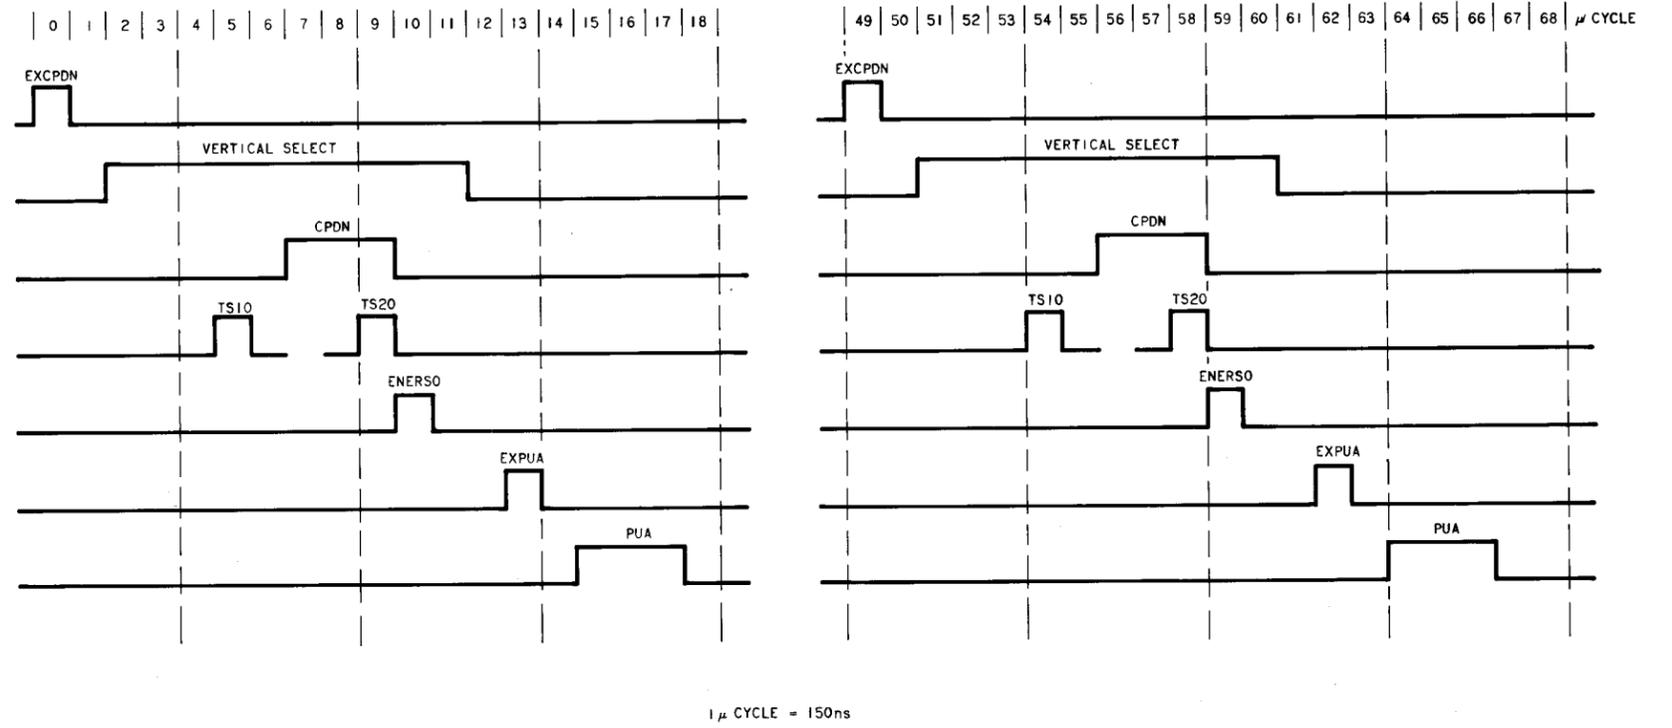

Fig. 12—Timing Pulses
**3.36 Output Timing Pulses**—The pulse shift register (PSR) receives clock pulses from the 3A CC and converts these clock pulses into timing pulses (Fig. 12) for the I/O control circuits. The loading of the PSR is described in 3.20. The timing pulses generated by the timing circuit are as follows:
**3.38** The EXCPDN pulse sets bit 4 of the I/O control register, (Table E), which enables the PSR and the pulse generation circuits to produce a normal width CPD pulse. The timing signals generated are the vertical select, CPDN (horizontal enable), TS10, TS20, and ENERSO (Fig. 12).
**3.41** Figure 12 shows the relative timing of the pulse outputs from the timing circuit and the timing pulses from the 3A CC when executing